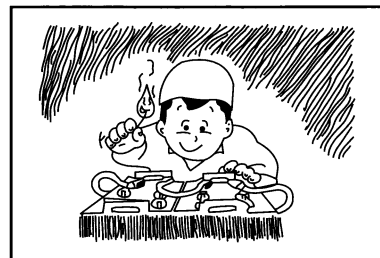

Figure 2-20
- Never get the lighted cigarette or flame close to the battery. (Figure 2-20)